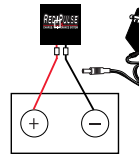

Fig. 1
- 2** Screw a hex nut (not included) onto the bolt and tighten it until it secures the lug and washer between it and the clamp nut. When RediPulse is plugged in (see *AC Adapter section*), this will allow the unit to send a pulsating dc current through into the battery to prevent the buildup of sulfates on the lead plates (see Fig. 1).